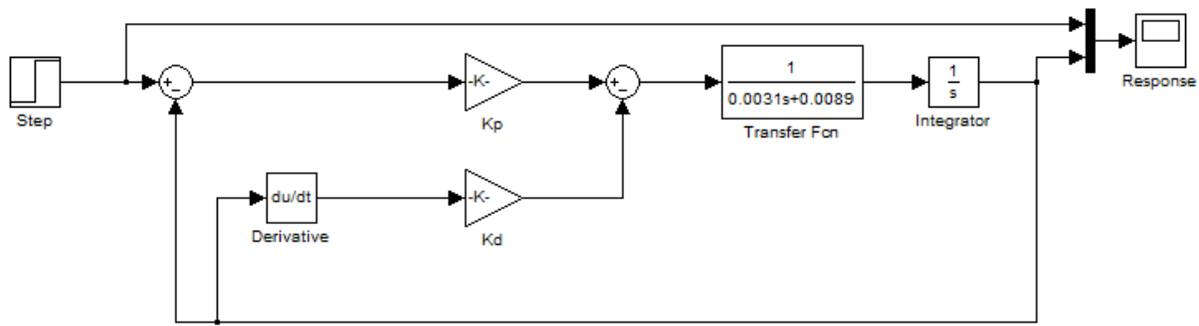

Figure 5.2: PD control model
2. Save your model as **PreLab_Position_Control.mdl**. Your model should resemble Figure 5.2.